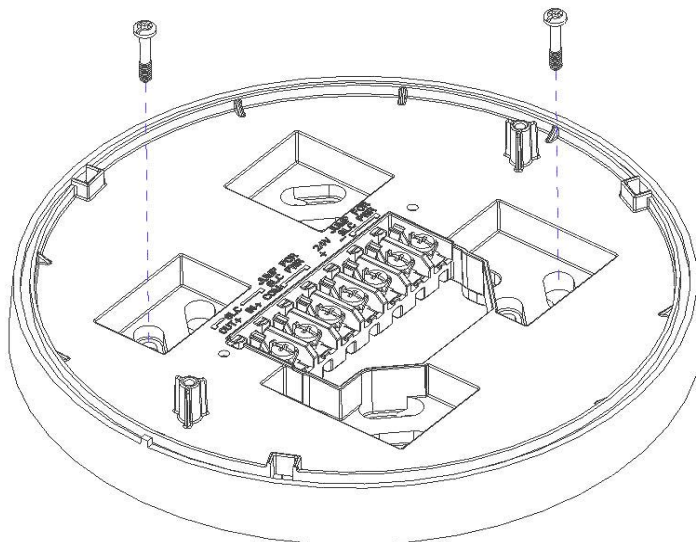

Figure 2.2 Mounting Plate
2. Mount the mounting plate to the junction box or ceiling. See figure 2.2.